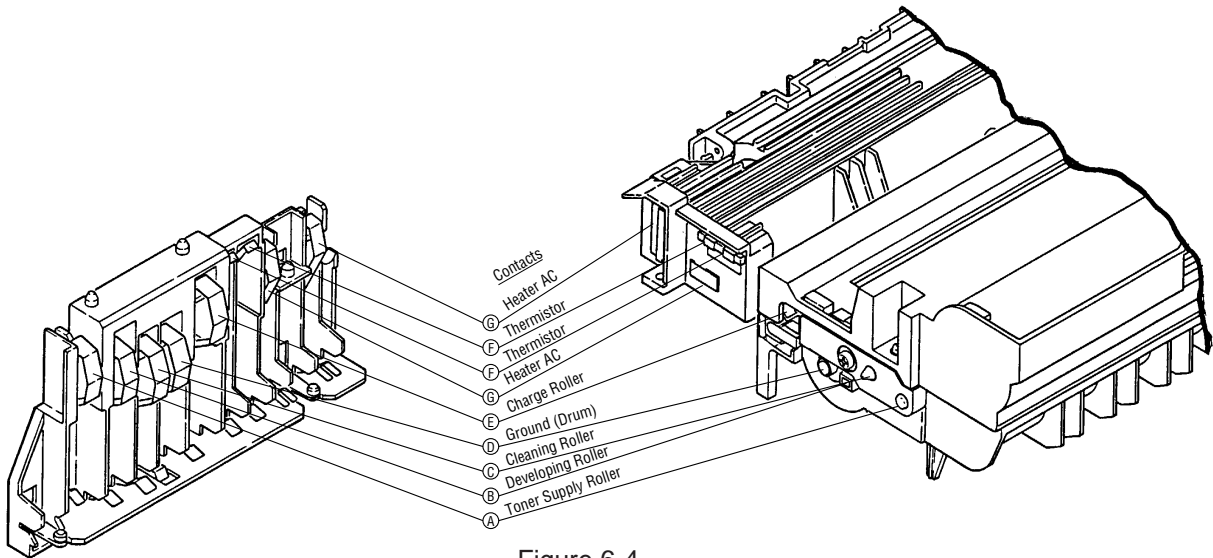

Figure 6-4
• No Do the thermistor contacts touch the contact assembly properly when the fusing unit is mounted in the printer (see Fig. 6-4 contact ⑤)?
• Yes Check the heat contact of the fusing unit and the contact assembly for poor contact (see Fig. 6-4 contact ③).
- ▼ No Is the contact of the cleaning roller of the image drum cartridge properly in contact with the contact assembly (see Fig. 6-4 ©)?
• Yes Is the contact of the image drum cartridge in proper contact with the ground contact (see Fig. 6-4)?